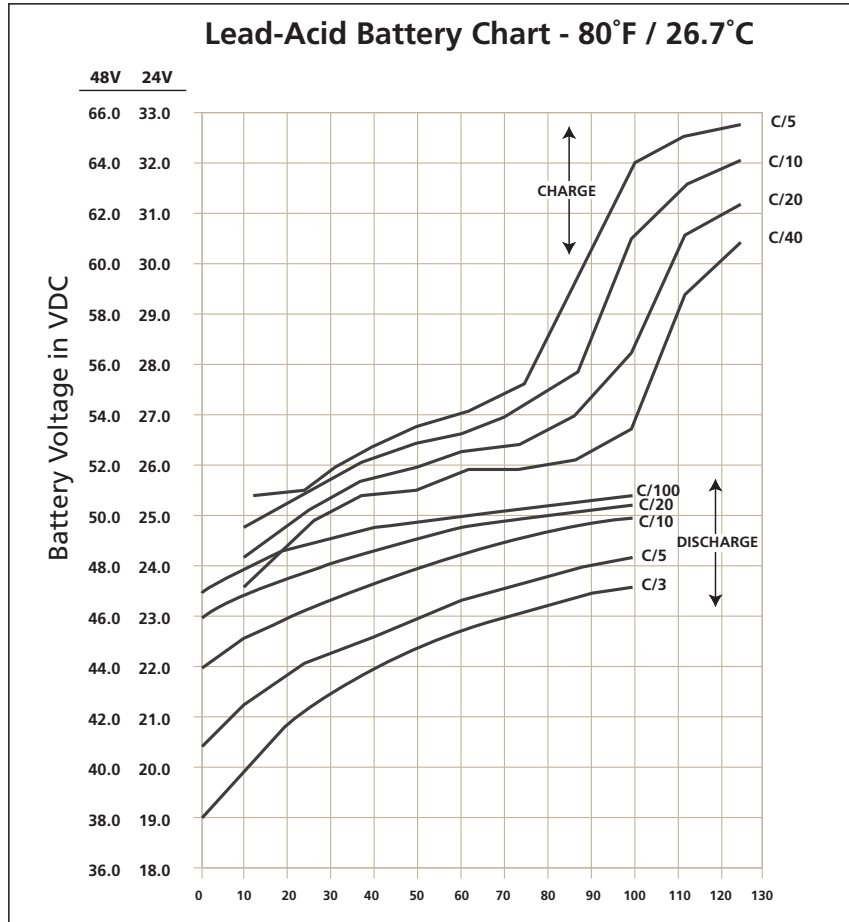

Fig. 7.1: Charging / Discharging Curves for 24V / 48V Lead Acid Batteries
Fig. 7.1 shows the charging and discharging characteristics of a typical 24V / 48V Lead Acid battery at electrolyte temperature of 80°F / 26.7°C. The curves show the % State of Charge (X-axis) versus terminal voltage (Y-axis) during charging and discharging at different C-Rates. **Please note that X-axis shows % State of Charge. State of Discharge will be = 100% - % State of Charge.** These curves will be referred to in the subsequent explanations.
The discharge curves in Fig. 7.1 show the % State of Charge versus the terminal voltage of typical battery under different charge /discharge currents, i.e. “C-Rates” and fixed temperature of 80°F.
**NOTE:** The X-axis of Curves shown in Fig 7.1 indicates the % State of Charge. % State of charge may be converted to % State of Discharge using formula given below:
Inverters are provided with audible alarm that is normally triggered when the voltage at the DC input terminals of the inverter has dropped to 80% discharged condition at C-Rate discharge current of C/5 Amps. Please note that the terminal voltage relative to a particular of State Discharge decreases with rise in the value of the discharge current. For example, terminal voltages for State of Discharge of 80% (State of Charge of 20%) for various discharge currents will be as given at Table 7.5 (Refer to Fig 7.1 for parameters and values shown in Table 7.5):
As explained above, inverters are normally provided with a protection to shut down the output of the inverter if the DC voltage at the input terminals of the inverter drops below a threshold of corresponding to 100% discharged condition. In this inverter, this threshold is programmable through parameter "UVP Setting" (See Section 7.12.2). Referring to the Discharge Curves given in Fig 7.1, the State of 100% Discharge for various C-Rate discharge is as follows:
In this inverter, the threshold of Low DC Input Voltage Shutdown is programmable and is called "UVP Setting" (UVP stands for Under Voltage Protection). The default value is 20V for PSR-2200-24 and 40V for PSR-2200-48. This default value is close to the terminal voltage at 100% discharge condition at C-rate discharge current of C/5 Amperes (Refer to Fig 7.1). For programming details, refer to Fig 10.1 / Table 10.1 under Main Menu for Parameter Group 2 – "Input Setup" / Sub Menu for Parameter Group 2, Item (c) "UVP Setting" (Section 10.2.2.3).
It is recommended that programmable parameter "UVP Setting (See Section 7.12.2) may be used to shut down the inverter at voltage threshold corresponding to the desired Depth of Discharge. For example, if the inverter is to be shut down at 80% Depth of Discharged (20% State of Charge) at C-Rate discharge current of C/5 Amps, the voltage will be 21.8V for PSR-2200-24 (Refer to Fig 7.1).